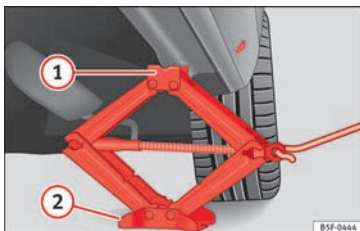

Fig. 187 Strut: mounting the jack on the vehicle.
- Turn the jack*, located below the strut support point, to raise it until tab ① » » » Fig. 187 is below the housing provided.
- Align the jack* so that tab ① “grips” onto the housing provided on the strut and the mobile base ② is resting on the ground. The base plate ② should fall vertically with respect to the support point ①.